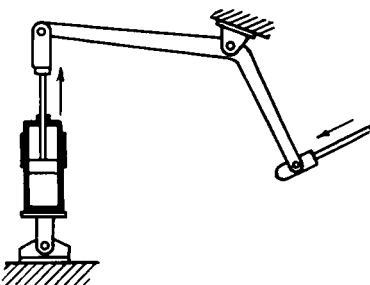

Fig. 7 A cylinder can be used with a bent lever.
**Fig. 7** A three-screw pump drives liquid between the screw threads along the axis of the screws. The idle rotors are driven by fluid pressure, not by metallic contact with the power rotor.